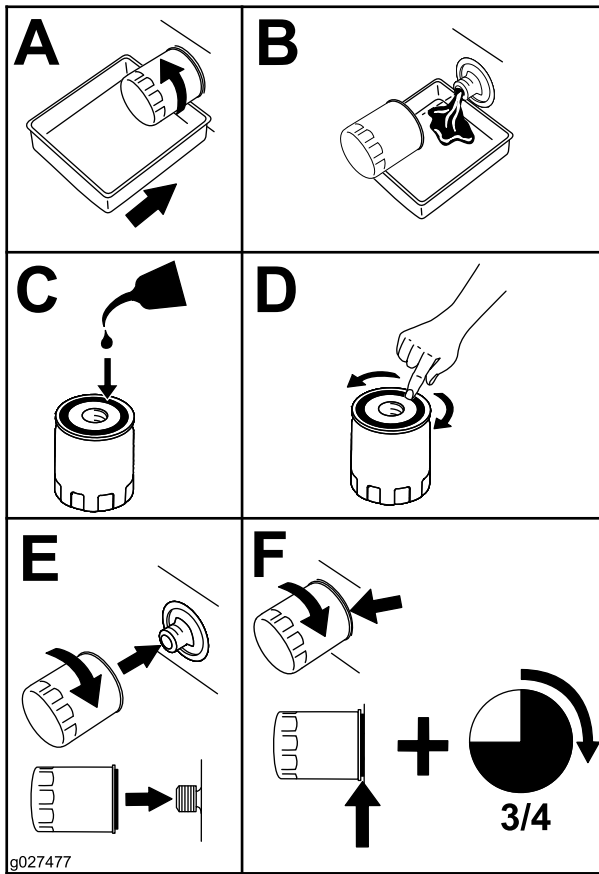

Figure 40
- Change the engine-oil filter (Figure 40).